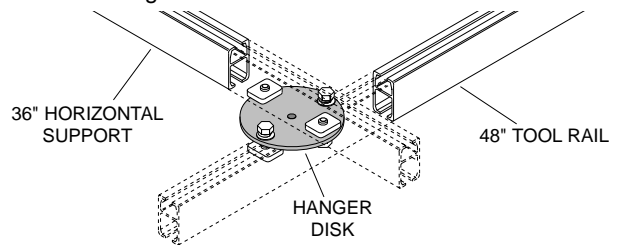

Figure 6.
18. Install 48" tool rail beneath two 36" overhead support rails that are 44" o.c. (Fig. 6). Position tool rail as desired and tighten trak nuts.